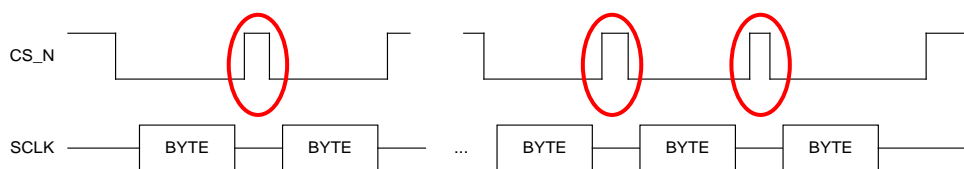

Figure 7-4. CS_N de-assert mode
- Configurable option to control CS_N de-assertion between byte transfers. The controller supports a special transmission format called CS_N de-assert mode. Figure 7-4 illustrates the waveform in this transmission format.